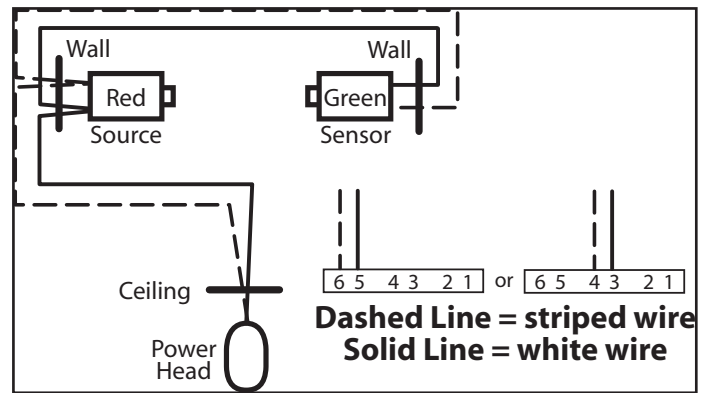

FIG. 4-5b Pre-Wired source and sensor wiring method
- Route wire from wall to Safe-T-Beam® sensors (**Fig. 4-5b**).
- Route wire from ceiling to power head (**Fig. 4-5b**).